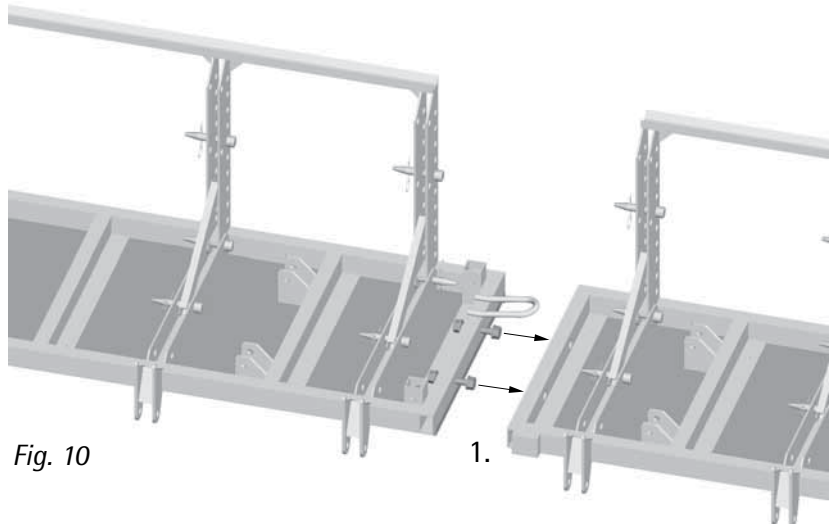

Fig. 10
1. Remove **stacking screws** from the upper parts of the frame (Fig. 10).